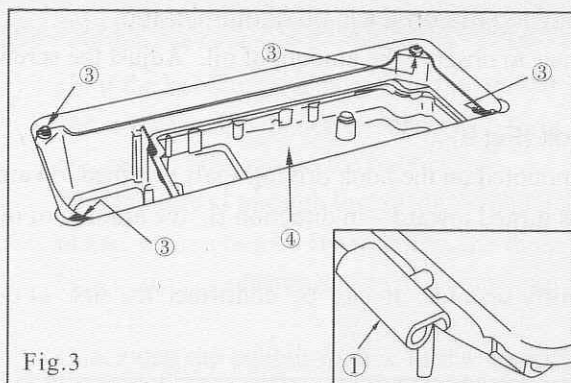
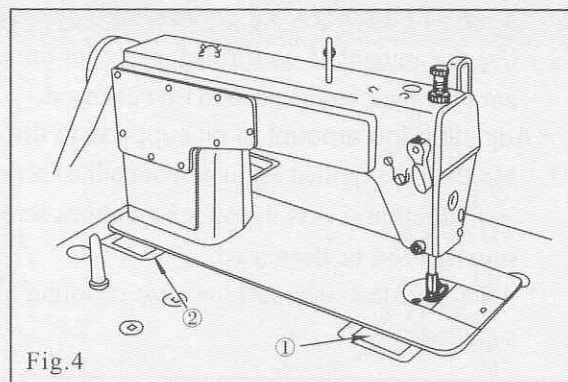

Fig.3
Fig.4
1. INSTALLATION(Fig.1, Fig.2, Fig.3, Fig.4)
- 3) Fit hinge ① into the opening in the machine bed, and fit the machine head to table rubber hinge ② before placing the machine head on cushions ③ on the four corners. (Fig.3, Fig.4)